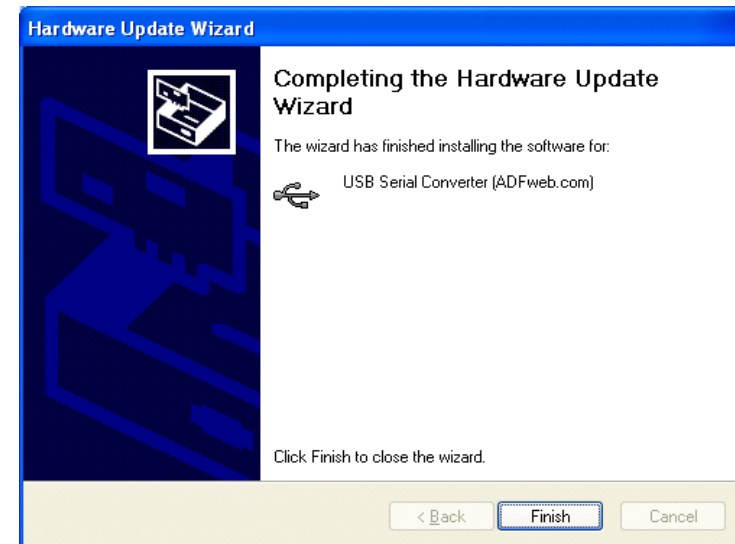

Figure 7: "Hardware Update Wizard" window
- The installation of the drivers is finished (Fig. 7);